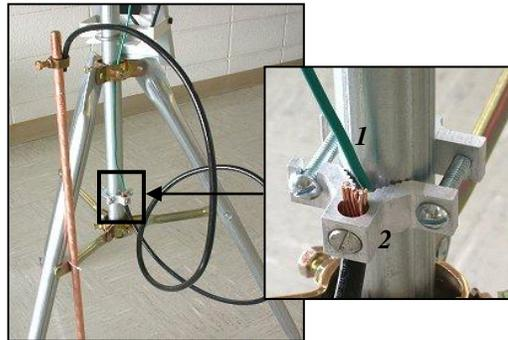

Figure 18: The TP1-GK assembly. Right is the 14 AWG wire and the #4 cable attached to the tripod coupling.
2. Mount the tripod coupling on the tripod mast so that it clamps the 14 AWG wire against the tripod (1 of Figure 18).
5. Place one end of the #4 cable in the tripod coupling hole then tighten the screw (2 of Figure 18).